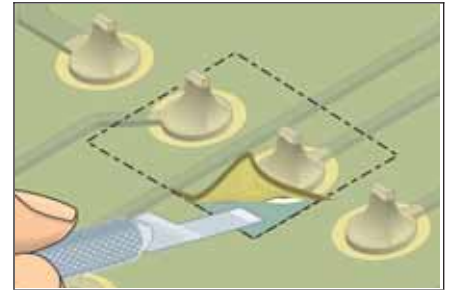

Figure 1 Slit and peel off coating using a knife or heated blade.
1. Slit and peel off the coating material with a dull knife or heated dull blade. (See Figure 1.)